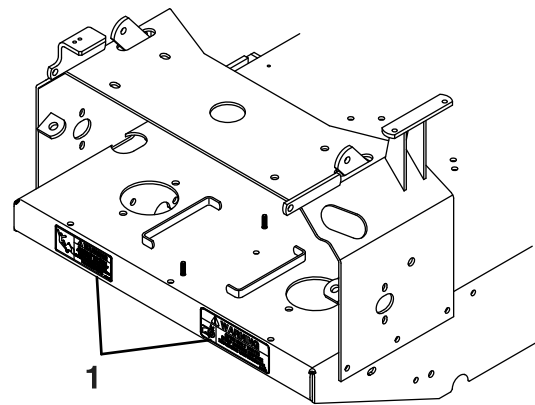

Figure 5
- b. Remove the two decals on the lower rear surface of the engine deck (see Figure 5).